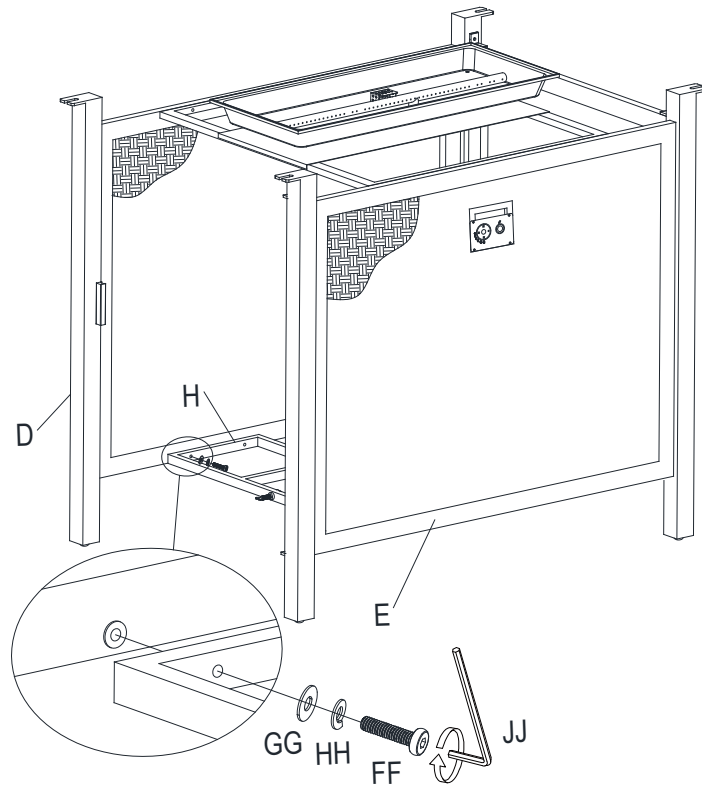

Figure 4
5. Loosely attach Gas Tank Support (H) to the Left Side Panel (D) and Right Side Panel (E) by bolts (FF) through lock washers (HH), flat washers (GG), using Allen wrench (JJ). See figure 4.